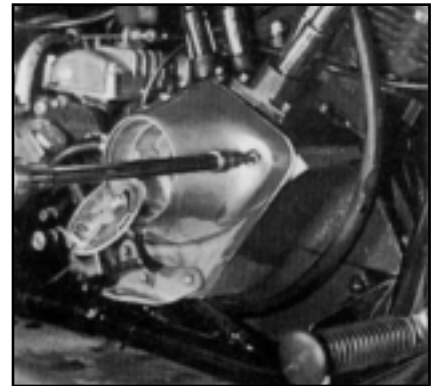

Fig. 9
4. Remove the gear case cover screws and remove cover and gasket (Fig. 9).